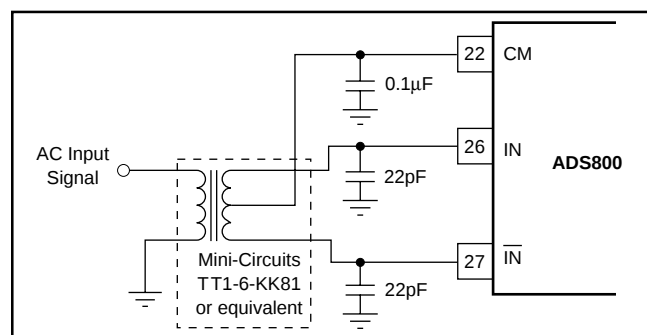

FIGURE 5. AC-Coupled Single-Ended to Differential Drive Circuit Using a Transformer.
The ADS800 has a differential input with a common-mode of +2.25V. For AC-coupled applications, the simplest way to create this differential input is to drive the primary winding of a transformer with a single-ended input. A differential output is created on the secondary if the center tap is tied to the common-mode voltage of +2.25V per Figure 5. This transformer-coupled input arrangement provides good high frequency AC performance. It is important to select a transformer that gives low distortion and does not exhibit core saturation at full scale voltage levels. Since the transformer does not appreciably load the ladder, there is no need to buffer the common-mode (CM) output in this instance. In general, it is advisable to keep the current draw from the CM output pin below 0.5μA to avoid nonlinearity in the internal reference ladder. A FET input operational amplifier such as the OPA130 can provide a buffered reference for driving external circuitry. The analog IN and $\overline{\text{IN}}$ inputs should be bypassed with 22pF capacitors to minimize track/hold glitches and to improve high input frequency performance.